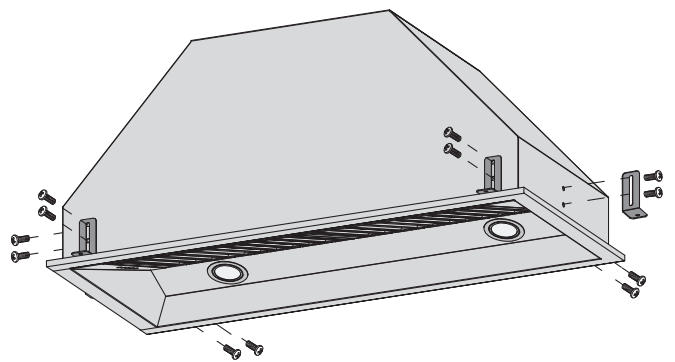

Figure 2
- Using screws and L shaped brackets provided, install each L shaped bracket through pre-drilled mount holes (see figure 2).